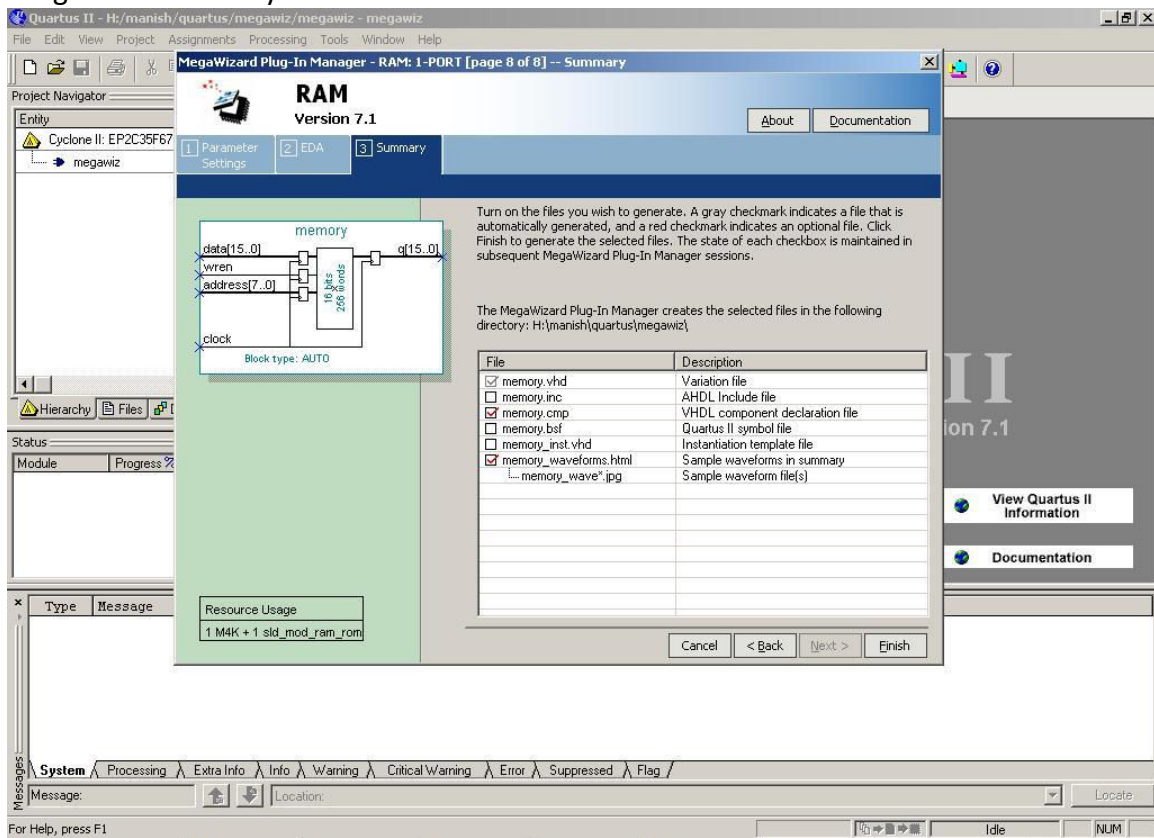

Fig. 7
7. Fig. 7 is a summary of all the files that will be created. Click Next.